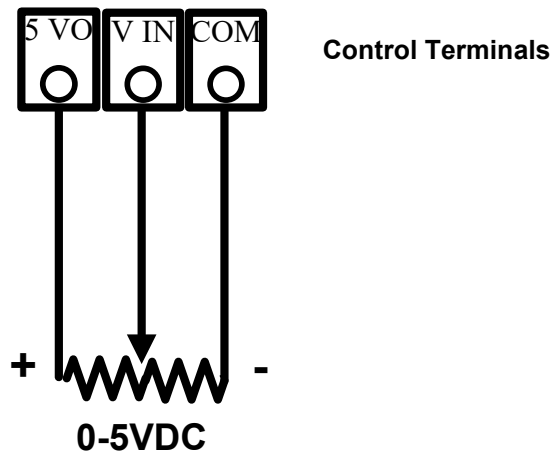

Figure 5 - Connection Diagram for 0-5VDC Transducer (Potentiometer)
2. Connect the potentiometer and 4-20 mA transducer as in **Figure 5** and **Figure 6**.